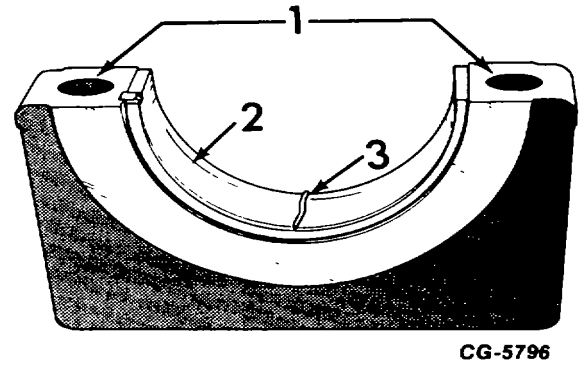

Figure 28. - Position of Virgin Lead or Plastigage
- b. Place a suitable length of 0.010 inch virgin lead wire or a piece of Plastigage across the bearing surface as shown in Fig. 28.
from the measurement obtained in Step 4a. Mill or grind this amount from surface "D" (3, Fig. 28) of the new bearing cap.